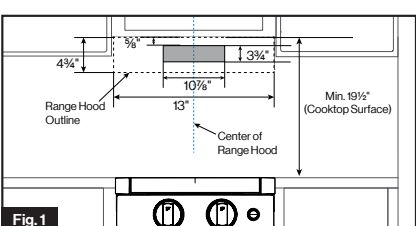

Fig. 1
- Mark centerline of range hood on the wall. (Fig. 1)
- Mark and cutout a through-hole on the wall according to the dimensions outlined in Fig. 1.